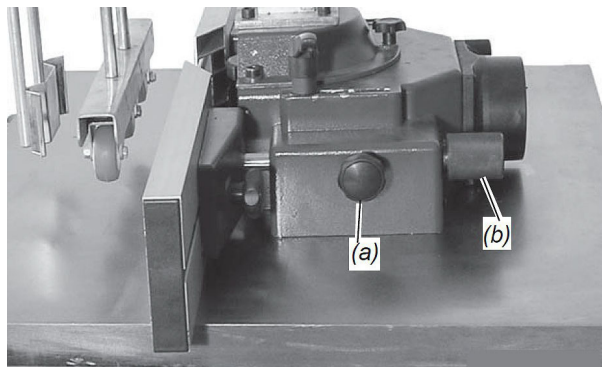

Fig. 33: Adjusting the fence
Step 2: Loosen the M8x25 clamping screw (a) (Fig. 33) and adjust the fence to the required position using the screw (b).